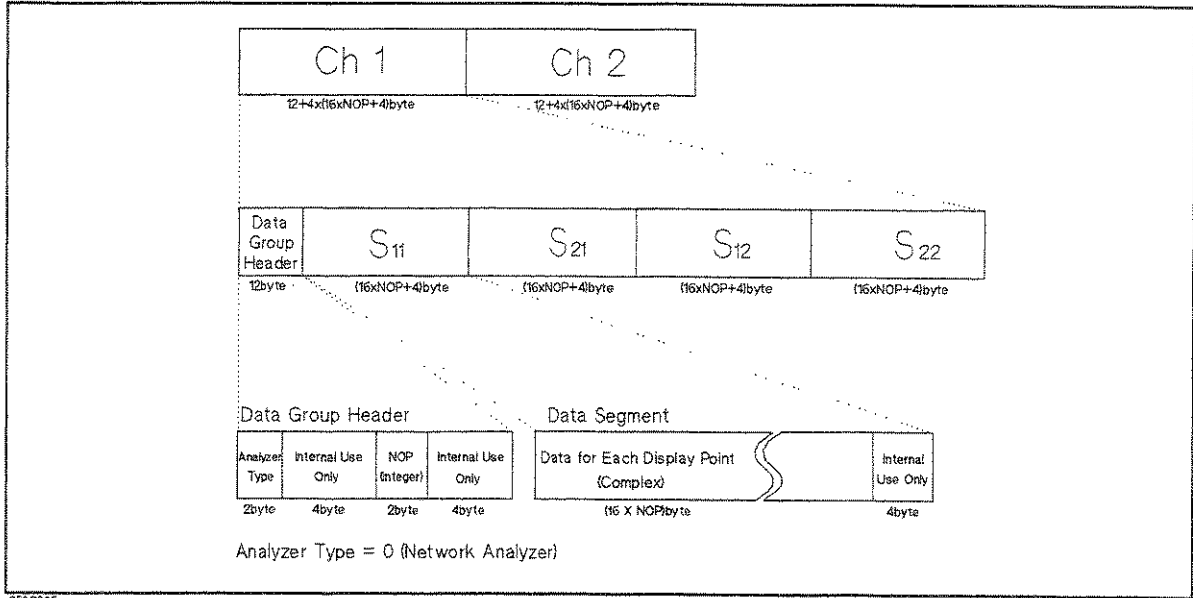

Figure C-2. RAW Data Group Structure for the Network Analyzer
- **RAW DATA** of the network analyzer consists of a header and four data segments per channel as shown in Figure C-2. They will follow the file header in this order: